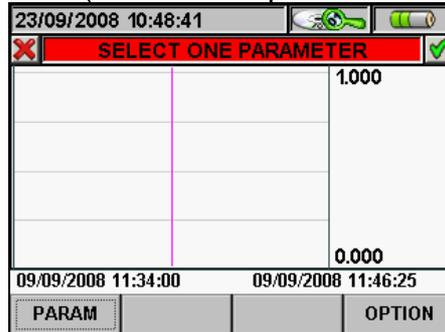

Fig. 177: Selecting a parameter
- Press the **ESC** key (or the smart icon on the display) to exit the function and go back to the “Selecting a parameter” page (Fig. 177)
- Press the **ESC** key (or the smart icon on the display) to exit the function and go back to the “Selecting a parameter” page(Fig. 177)